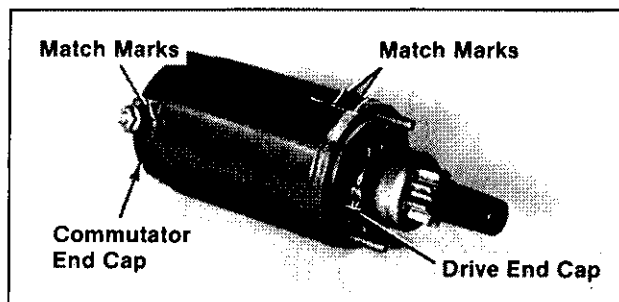

Figure 8-20. Starter Assembly Match Marks.
2. Install the thrust washer and drive end cap. Make sure the match marks on end cap and frame are aligned. Refer to Figure 8-20.
5. Make sure the match marks on end cap and frame are aligned. Refer to Figure 8-20. Install the thru bolts and tighten securely.